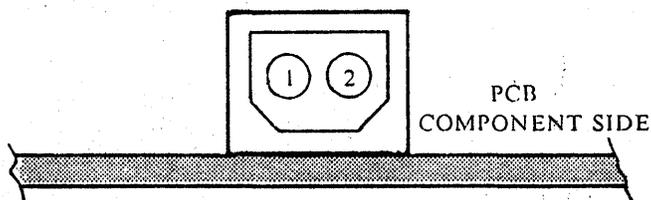

Figure 6-6. J12 Front Panel Indicator Connector
6.3.5 **Front Panel Indicator.** The front panel indicator is a green LED that illuminates when the drive is selected. It is connected via internal cable to front panel connector J12 (see Figure 6-6).